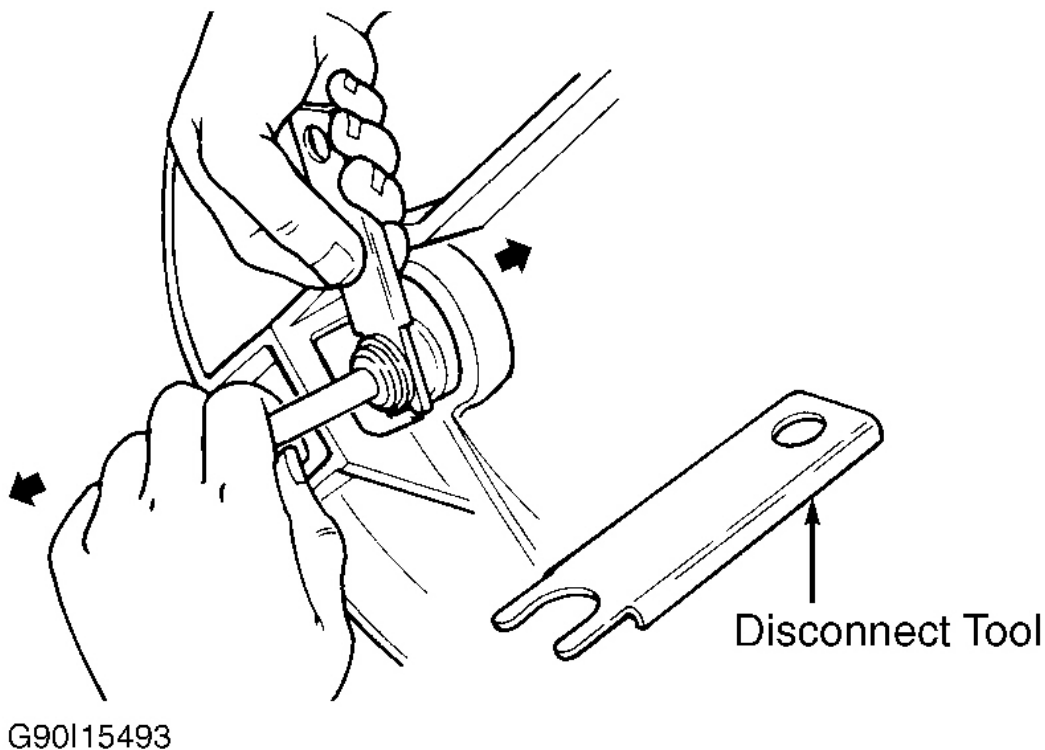

Fig. 4: Clutch Hydraulic Line Removal (Except 7.3L Diesel)
3. Position transmission jack under transmission. Disconnect drive shaft from extension housing and wire to one side. On models with 7.3L engines, disconnect clutch slave cylinder hydraulic line. On all other models, remove clutch slave cylinder hydraulic line by pressing White retainer bushing with Disconnect Tool (T88T-70522-A). See **Fig. 4**.